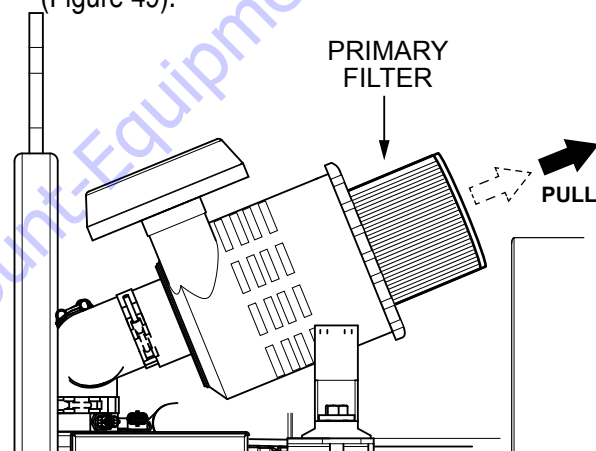

Figure 49. Primary Filter
4. Pull out the primary filter from the main canister (Figure 49).